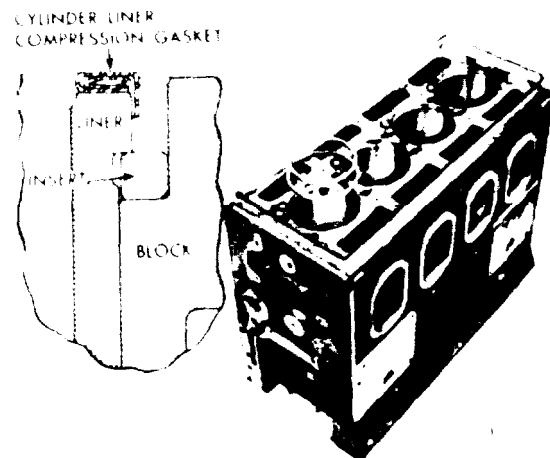

Figure 11B-34. Cylinder Head Seals and Gaskets
1. Refer to Figure 11B-34 and install the water and oil seal rings and compression gaskets as follows: